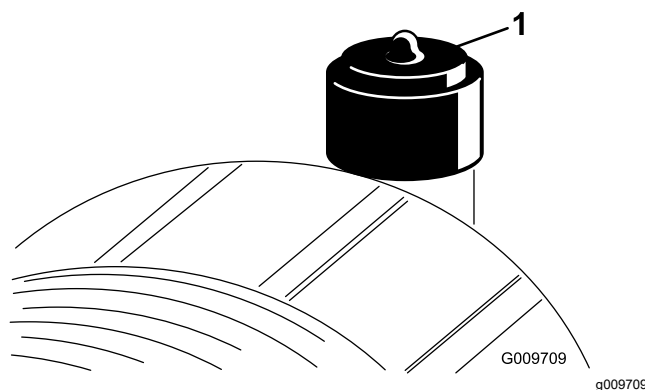

Figure 53
Service the air-cleaner filter only when the service indicator (Figure 53) requires it. Changing the air filter before it is necessary only increases the chance of dirt entering the engine when you remove the filter.
2. Reset the indicator (Figure 53) if it shows red.